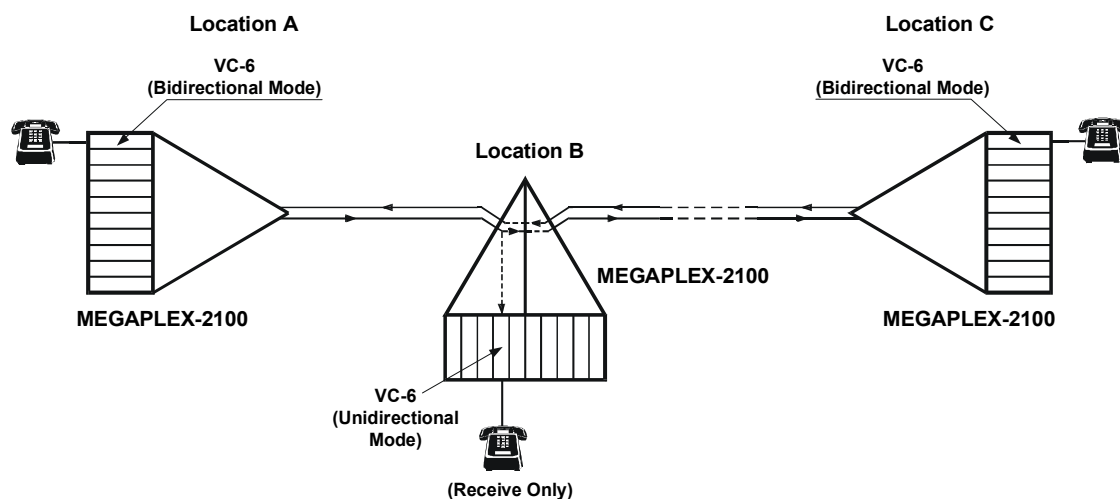

Figure 1-6. Typical Unidirectional Application for VC-6 Modules
The unidirectional mode, supported by the VC-6/E&M modules, enables a user at a central location to send messages to users connected to remote Megaplex-2100/2104 units (simplex communication), while using only one main link timeslot. In this mode, any message is simultaneously heard by all the unidirectional users, but none of them can answer. This capability is achieved by separating the handling of the receive and transmit paths in the timeslot assigned for the unidirectional channels, as shown by the dashed lines within the Megaplex-2100 unit at location B in Figure 1-6.
Figure 1-6 shows a simple system configuration. The figure shows only one Megaplex-2100 unit (location B) with a VC-6 channel configured for the unidirectional mode and assigned a timeslot on link A, but the number of such units is not limited.
In the application shown in Figure 1-6, the user at the central location (A) is connected to a VC-6 channel configured for operation in the normal mode. The timeslot assigned to user A is routed to the desired main link, and the channels of the other users (e.g., at location B) are configured for the unidirectional mode, and routed to the same timeslot on the main link connected to the Megaplex-2100 at location A (e.g., to link A).